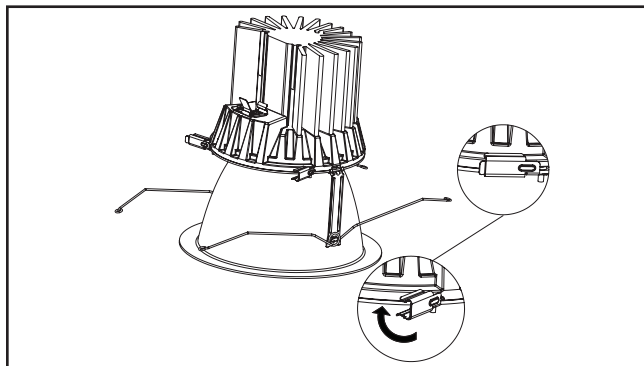

Figure 11.
3. Rotate side clips (3) into place to securely attach trim assembly to LED engine. (Figure 11.)